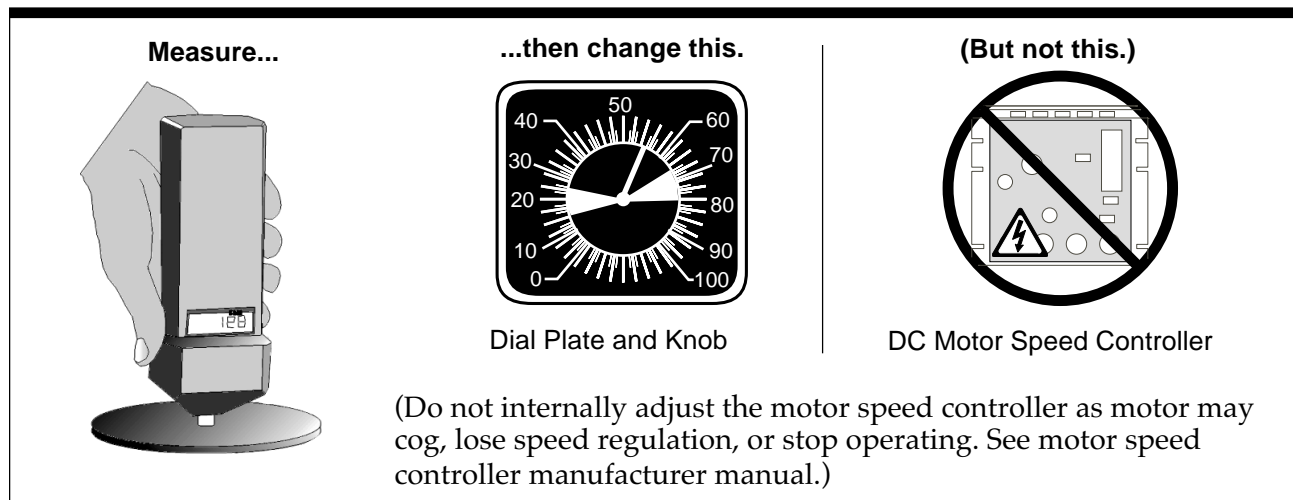

Figure 3-1. Measuring and Changing Bowl Speed (DC Motors Only)
► You will need a hand-held tachometer (analog or digital) with a surface speed wheel indicator (see Figure 3-1).